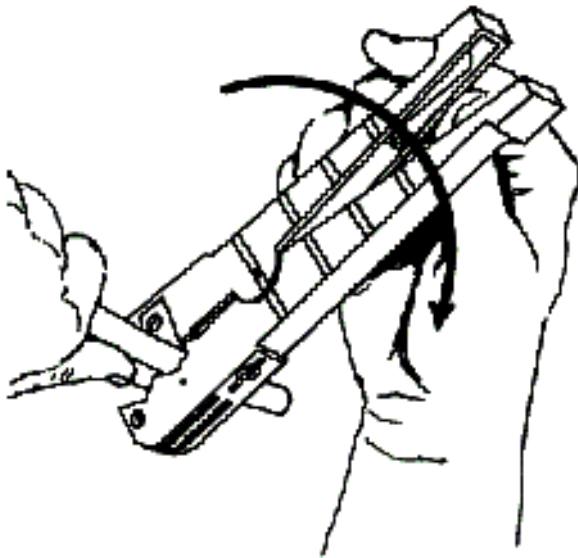

Figure 15. Coaxial Cable Stripping
- d. Spin the tool around the cable until maximum cutting depth is obtained (see Figure 15).
k. Spin tool around cable until maximum cutting depths obtained (see Figure 15).